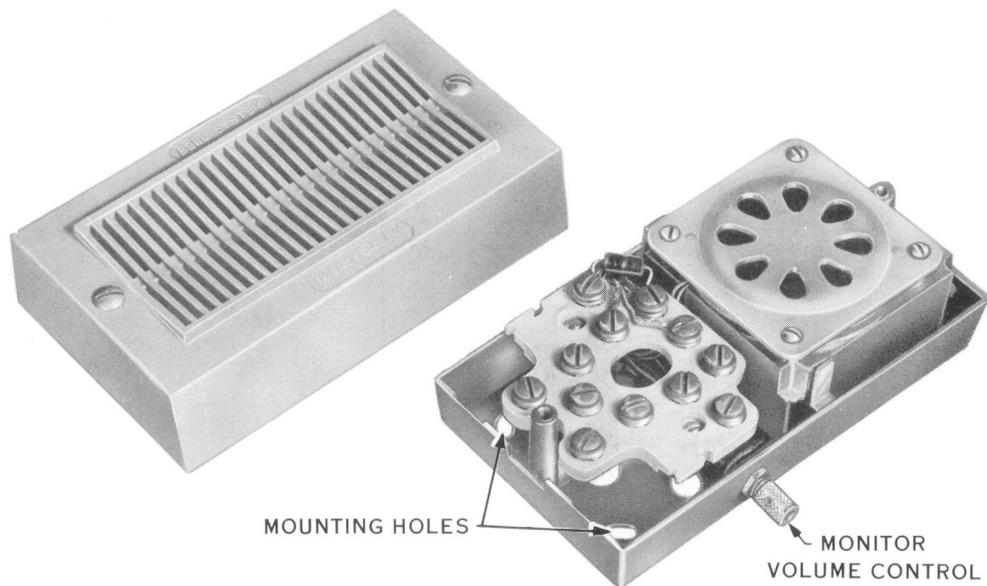

Fig. 3 - 759B Loudspeaker
- 759B loudspeaker (Fig. 3).
2.04 The 759B loudspeaker (Fig. 3) consists of a small dynamic speaker and a 12-terminal connecting block. It is equipped with a monitor volume control switch. These components are mounted on a metal base and covered with a plastic housing. This speaker is used at the monitor station only and is designed for wall mounting.